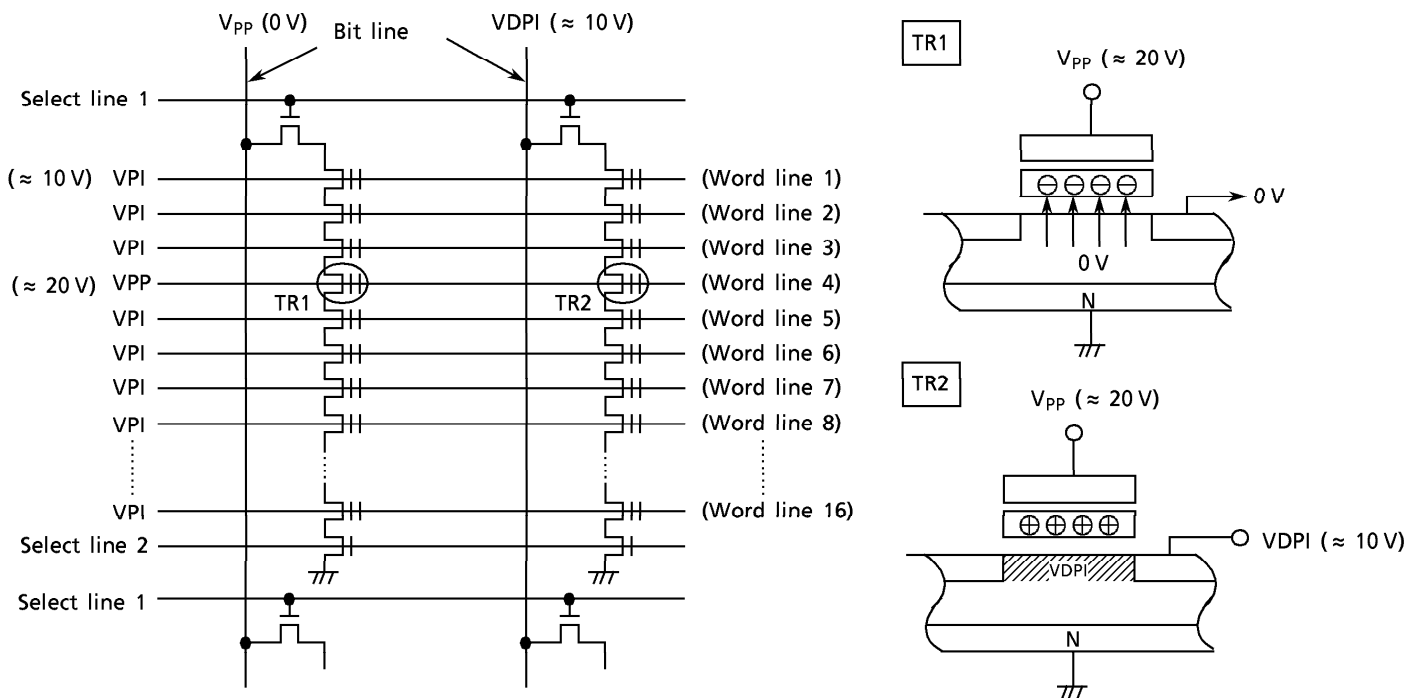

Figure 3. TC58A040 Program Device Physics
Figure 3 shows the NAND memory cell level details of the programming mechanism. The Program operation is used to write “0” data into an erased memory cell (“1” data cell) using a tunneling mechanism. An example Program operation to program “0” data into TR1 and “1” data into TR2 is as follows:
- (1) A high level is applied to Select line 1 and a low level is applied to Select line 2 so that the device is connected to the Bit line and disconnected from the ground line.
- (2) V_{pp} (to 20 V) is applied to the selected word line and an inhibit voltage of V_{PI} (≈ 10 V) is applied to the unselected word lines.
- (3) 0 volts is applied to the bit line tied to cell transistor TR1 and the inhibit voltage V_{DPI} (≈ 10 V) is applied to the bit line tied to TR2.
- (4) V_{pp} is applied between the control gate and the channel in TR1, as shown in Figure 3, which causes electrons to be injected from the channel to the floating gate by a tunneling.
- (5) The injected electrons are captured in the floating gate (surrounded by an oxide layer) and will remain, even after power is cut off, until they are removed by an Erase operation.
- (6) Although 20 volts is applied to the control gate of TR2, the voltage difference between the control gate and the channel is only 10 V because the voltage of the channel is 10 V. Therefore, tunneling does not take place (i.e. the electron is not injected into the floating gate.)
- (7) Tunneling does not take place in the unselected pages because of the 10 V (V_{PI}) applied to the unselected word lines which makes the voltage difference between the control gate and channel only 10 volts.